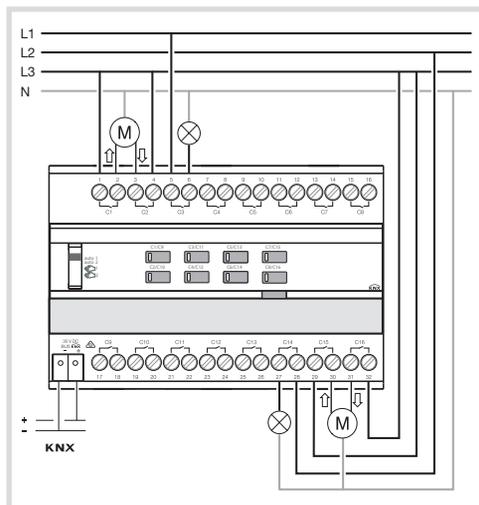

Fig 2: Device connection
- Connect load to the outputs of the device according to figure (figure 2).
- Connect drives according to figure (figure 2). While doing so, use the same phase (external conductors).